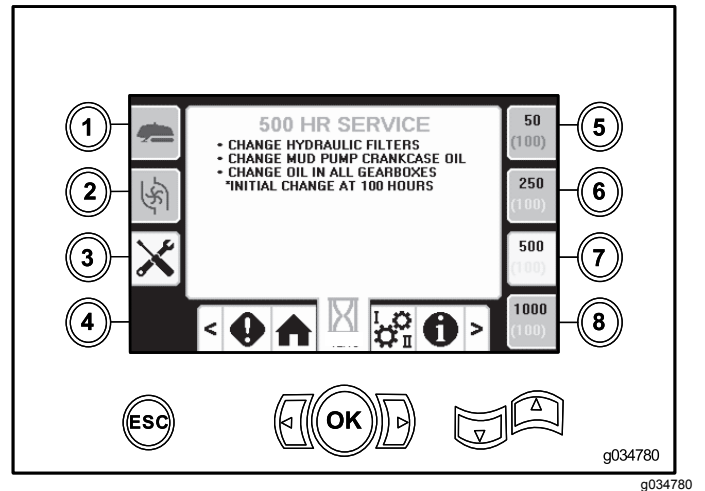

Figure 53
- Button 7—500-hour (Figure 53)